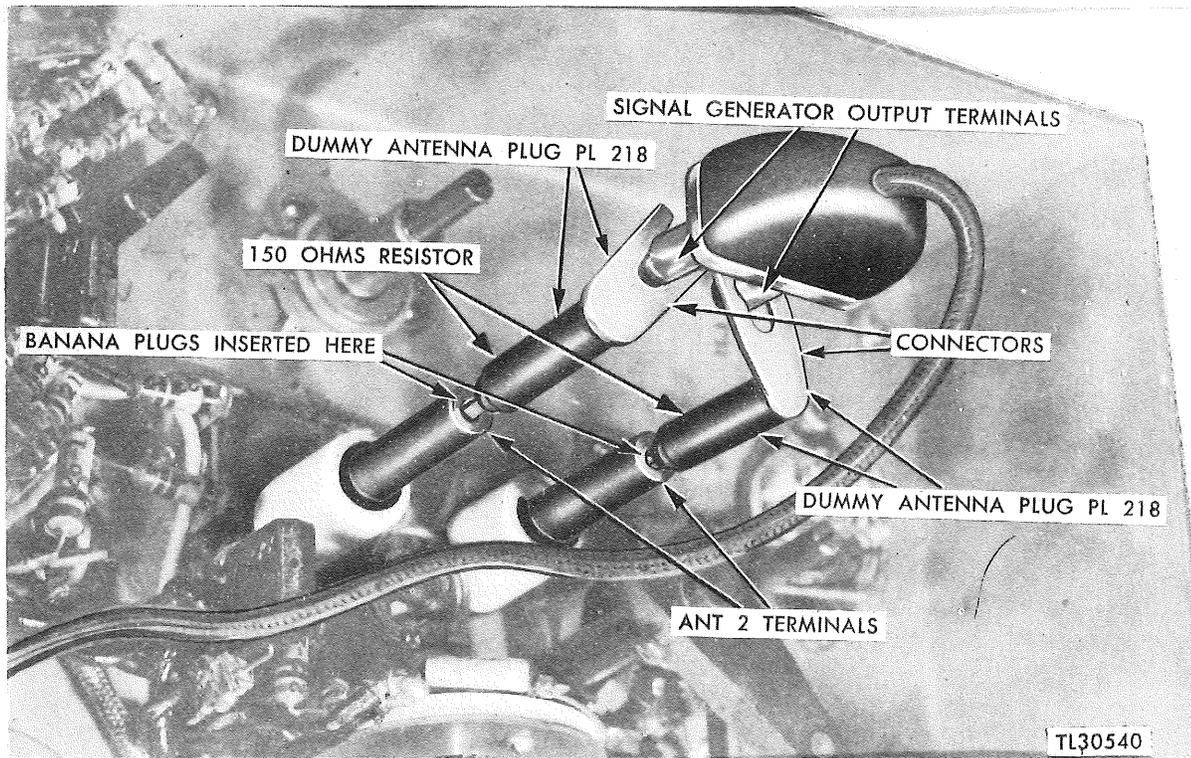
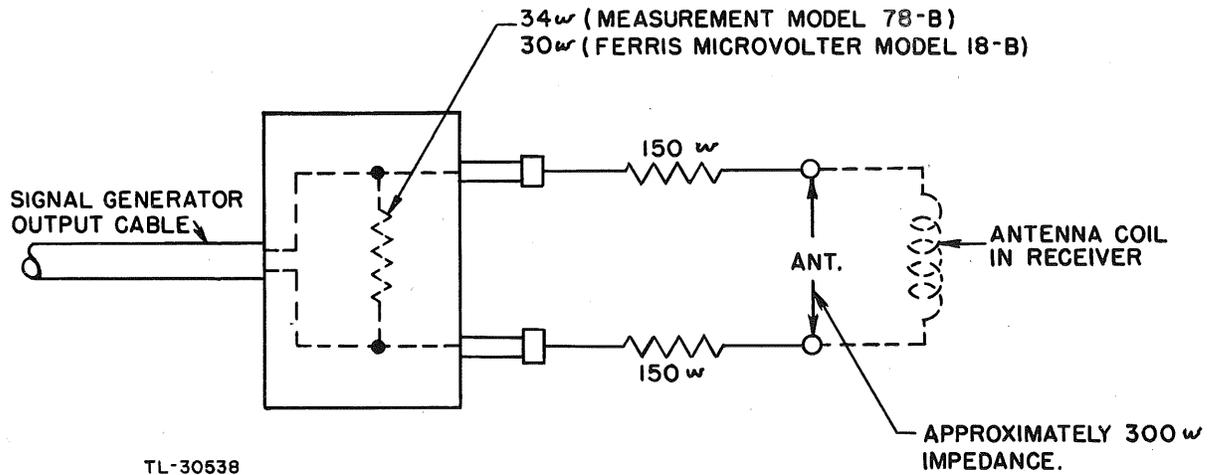

Figure 60. Plug PL-218, test connections.
Figure 61. Plug PL-218, schematic diagram of test connections.
a. Plug PL-218 contains a 150-ohm carbon resistor. Two of these plugs are used as an impedance-matching device when Receiver BC-406-A is aligned or tested by means of the r-f signal generators provided with the test equipment. Figure 60 illustrates the use of these plugs. Each one is connected in series with each leg of the signal-generator output terminals and the receiver antenna terminals. A schematic diagram is shown in figure 61.